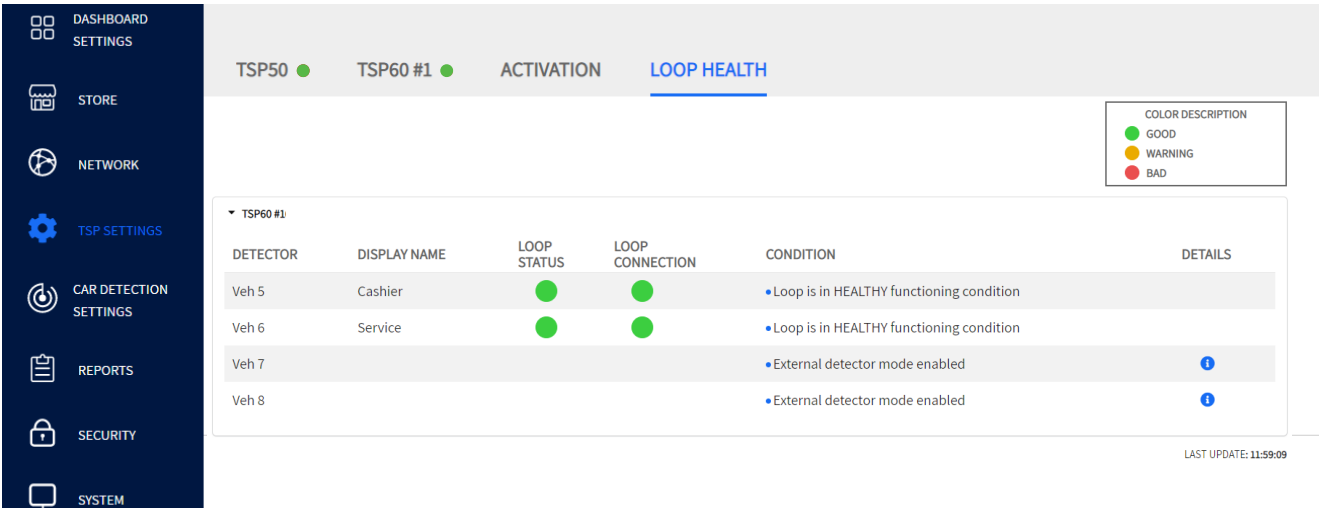

Fig. 6.5
**CONDITION:** The information presented in this column provides an assessment of both LOOP STATUS and LOOP CONNECTION combined with possible recommendations if necessary. For example, see Veh 5 in Fig. 6.5, a loop with two green indicators means everything is functioning well, your loop is in good health. However, two red indicators is a critical problem that will prompt you to call HME Technical Support for a corrective solution.